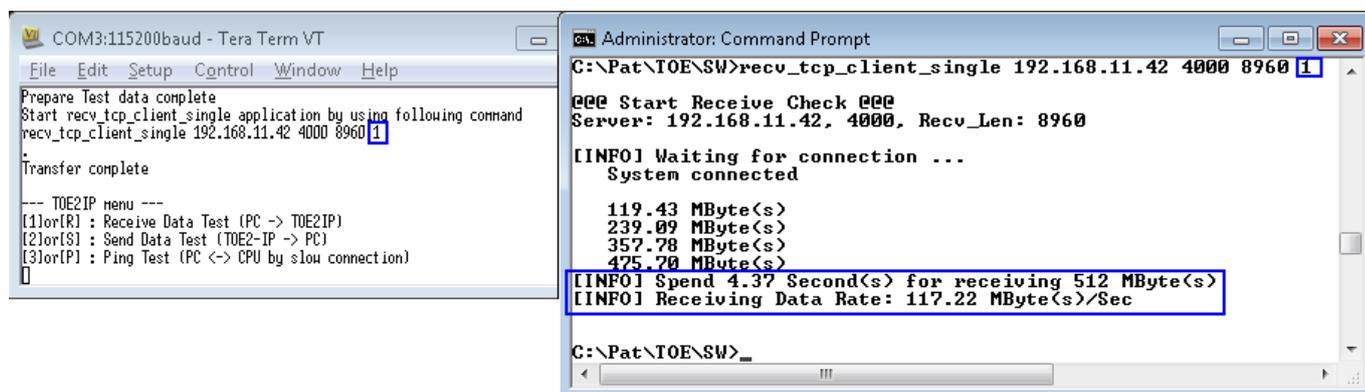
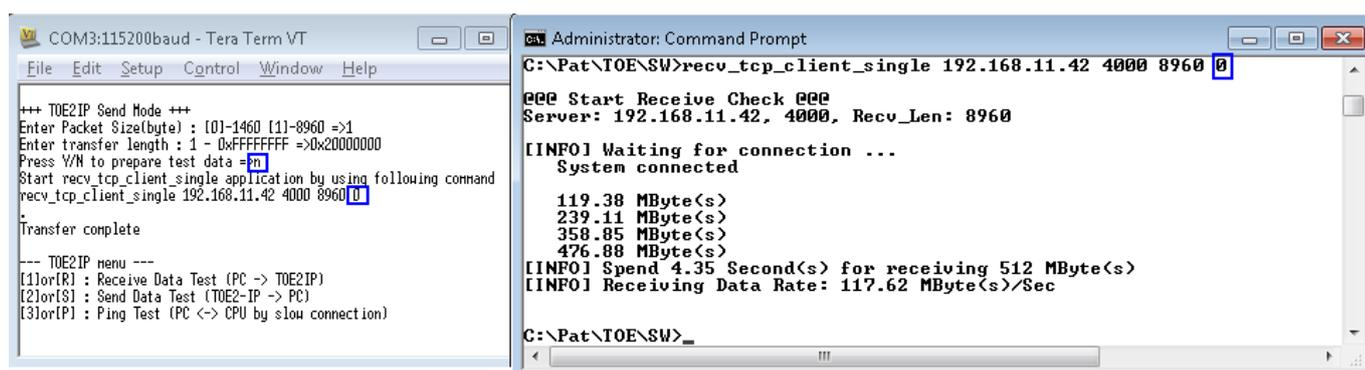

Figure 23 Test Result when enable data verification
Figure 24 Test Result when disable data verification
- Figure 23 and Figure 24 show the example test result when transfers 512 MB data with enable and disable data verification sequentially.